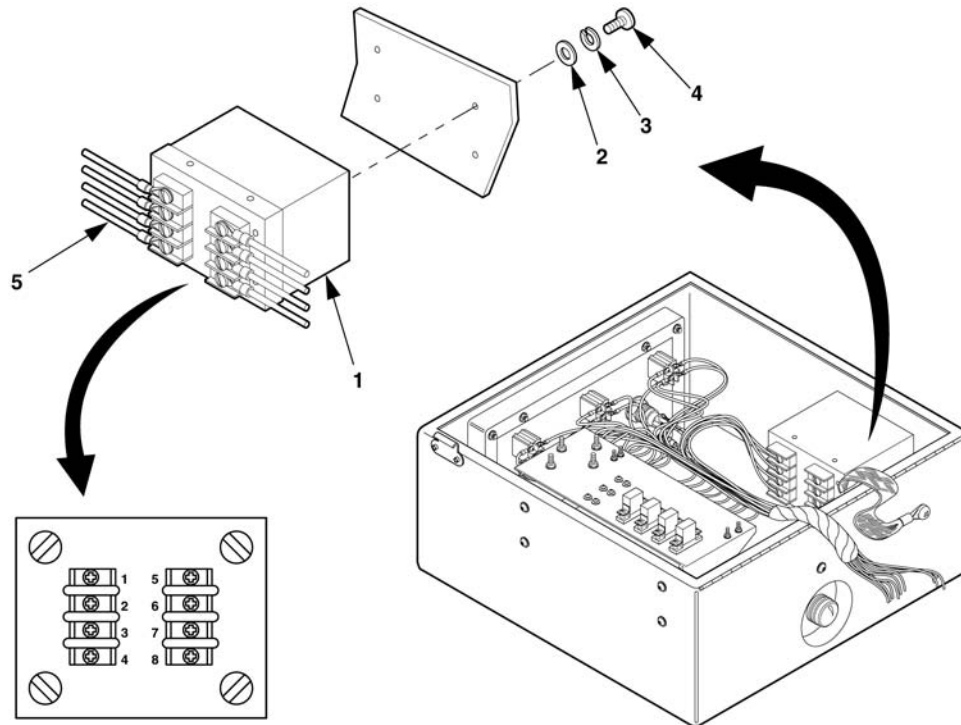

Figure 5-8. Relay, Permissive Paralleling Maintenance.
Tag and disconnect leads (5, Figure 5-8). Remove four screws (4), lock washers (3), flat washers (2), and permissive paralleling relay (1).